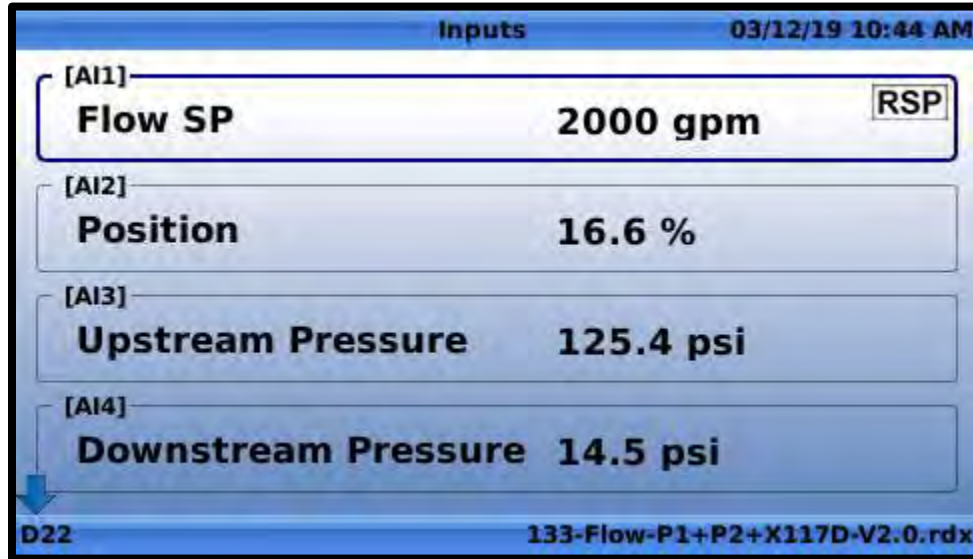

Figure 8.8
1. From the home screen, press short left and wait for the input values screen to appear as shown in **FIGURE 8.8**.